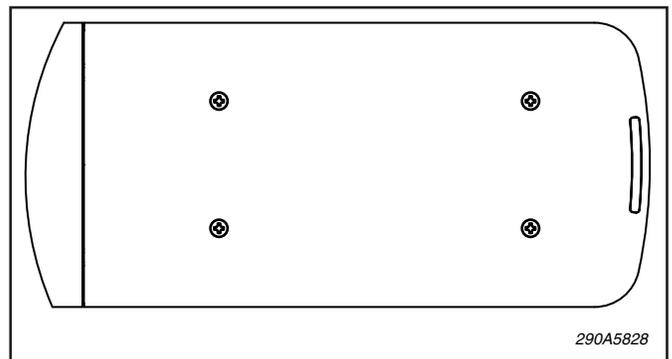

Figure 2.
B. *Top Removal (see figure 2).*